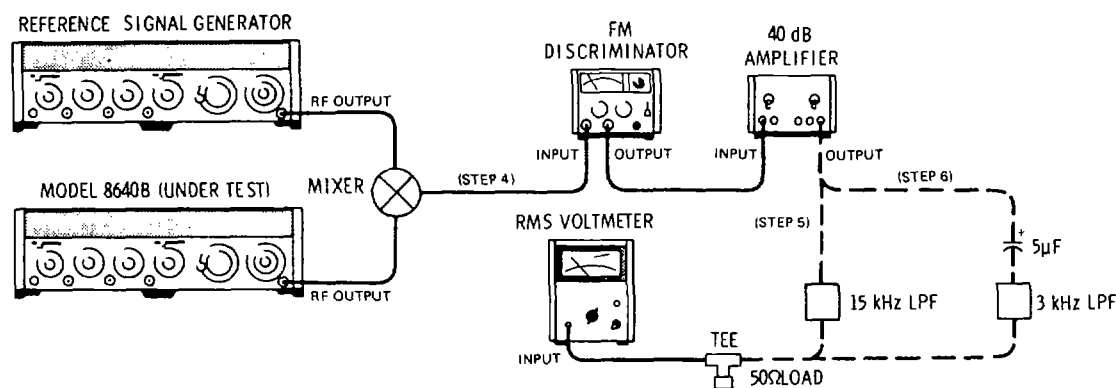

Figure 4-9. Residual FM Test Setup
- 1. Connect equipment as shown in Figure 4-9 after setting test Signal Generator's controls as follows: